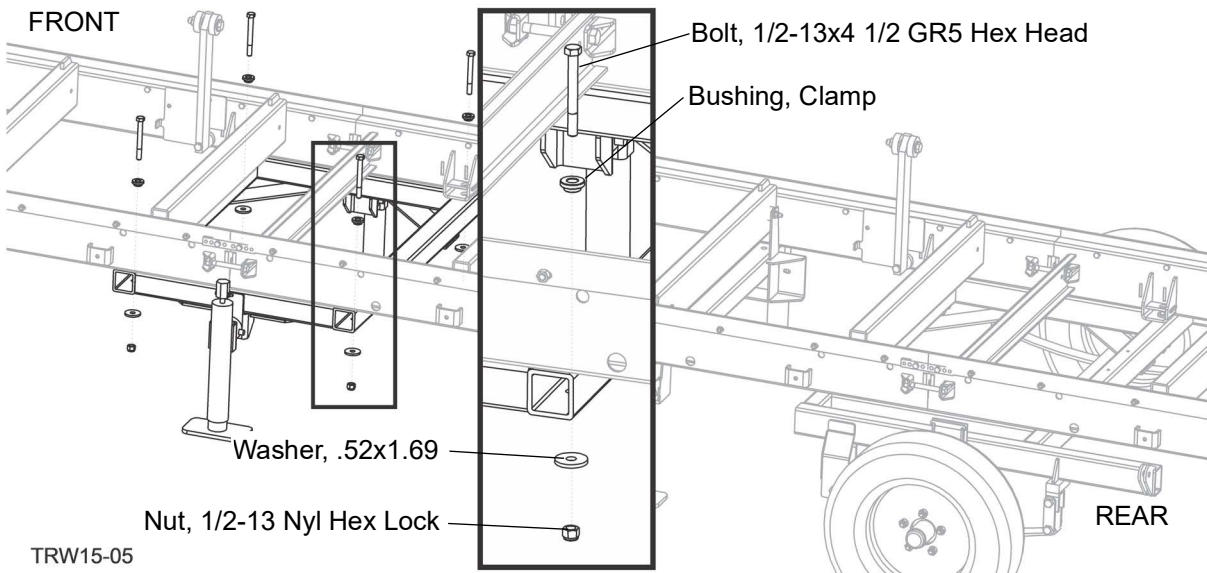

FIG. 2-7
11. Install the trailer brace weldment to the front end of the middle bed section as shown in Fig. 2-7.